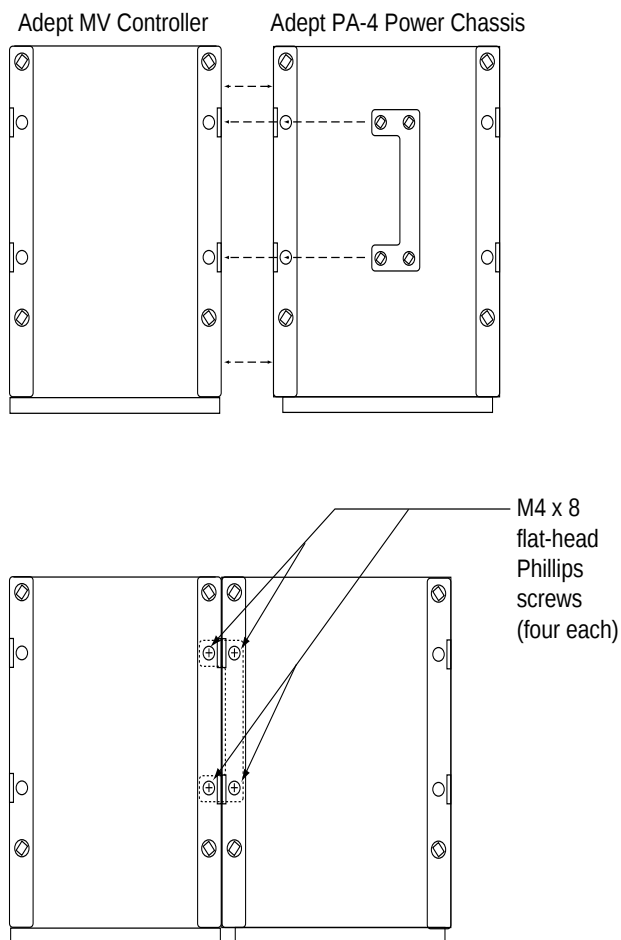

Figure 2-1. Joining the Power Chassis and Controller at the Top
1. Turn off power to each unit and disconnect the power cord. Place the two units next to each other. Remove the top cover from both (see Figure 2-1).